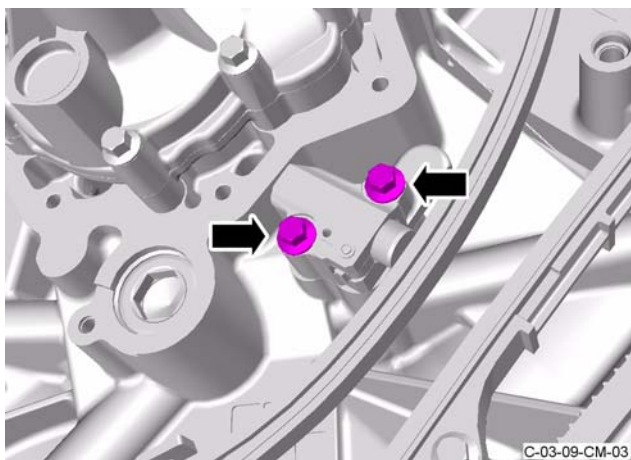

Figure 18
4. Install the two bolts that attach the timing chain tensioner to the engine and torque the bolts to 11 Nm (refer to Figure 18).